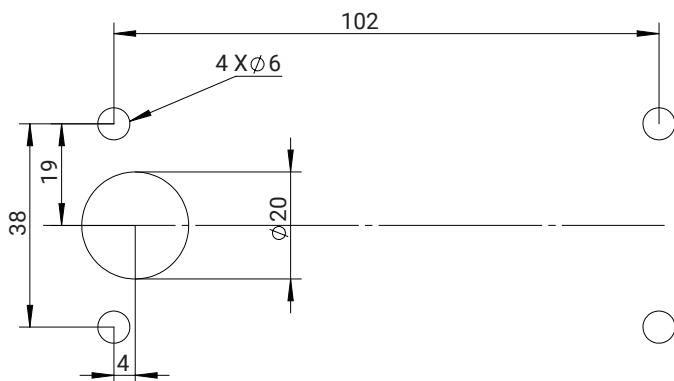

Figure 2-5
- ① Drill holes on the hull through the fixing guide referring to the figure 2-5.